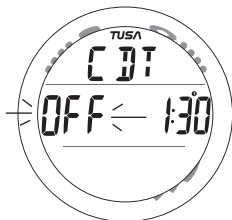

Fig. 18B - WATCH CDT
- A (< 2 sec) will save the Minutes Set Point and revert to the CDT Status screen with the graphic OFF (flashing) in place of the graphic SET (Fig. 18B).